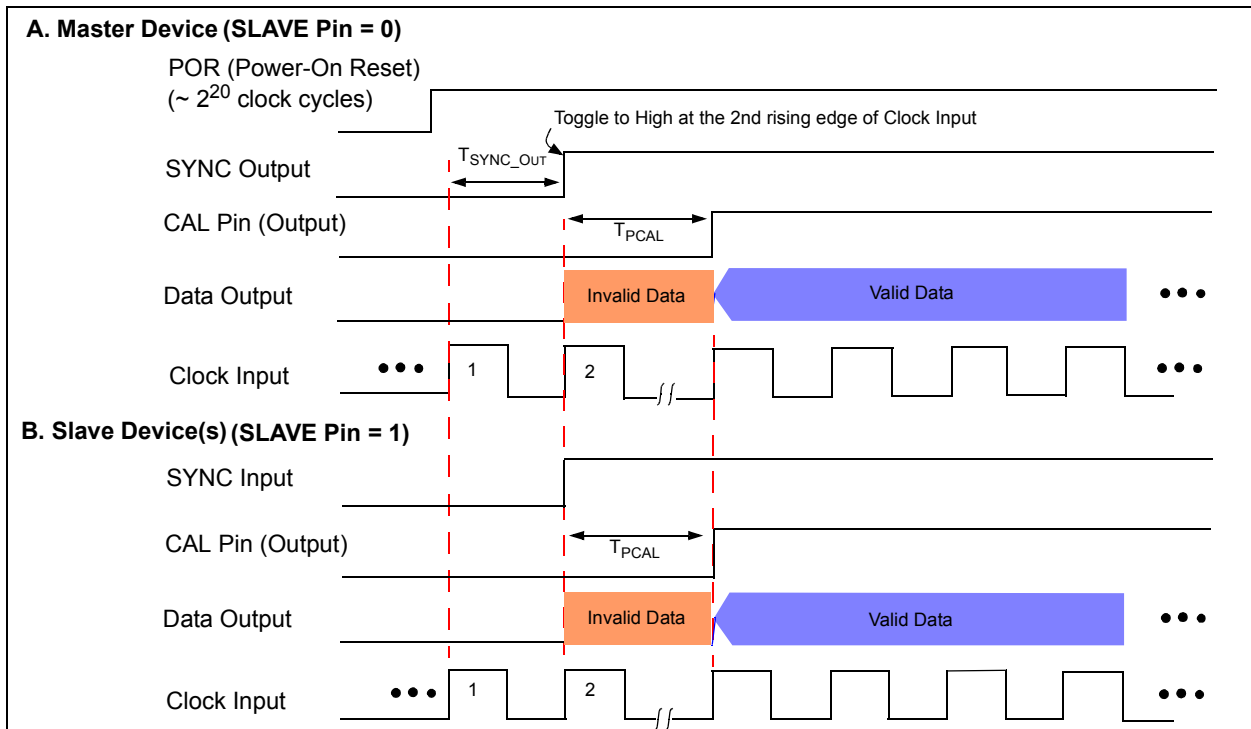
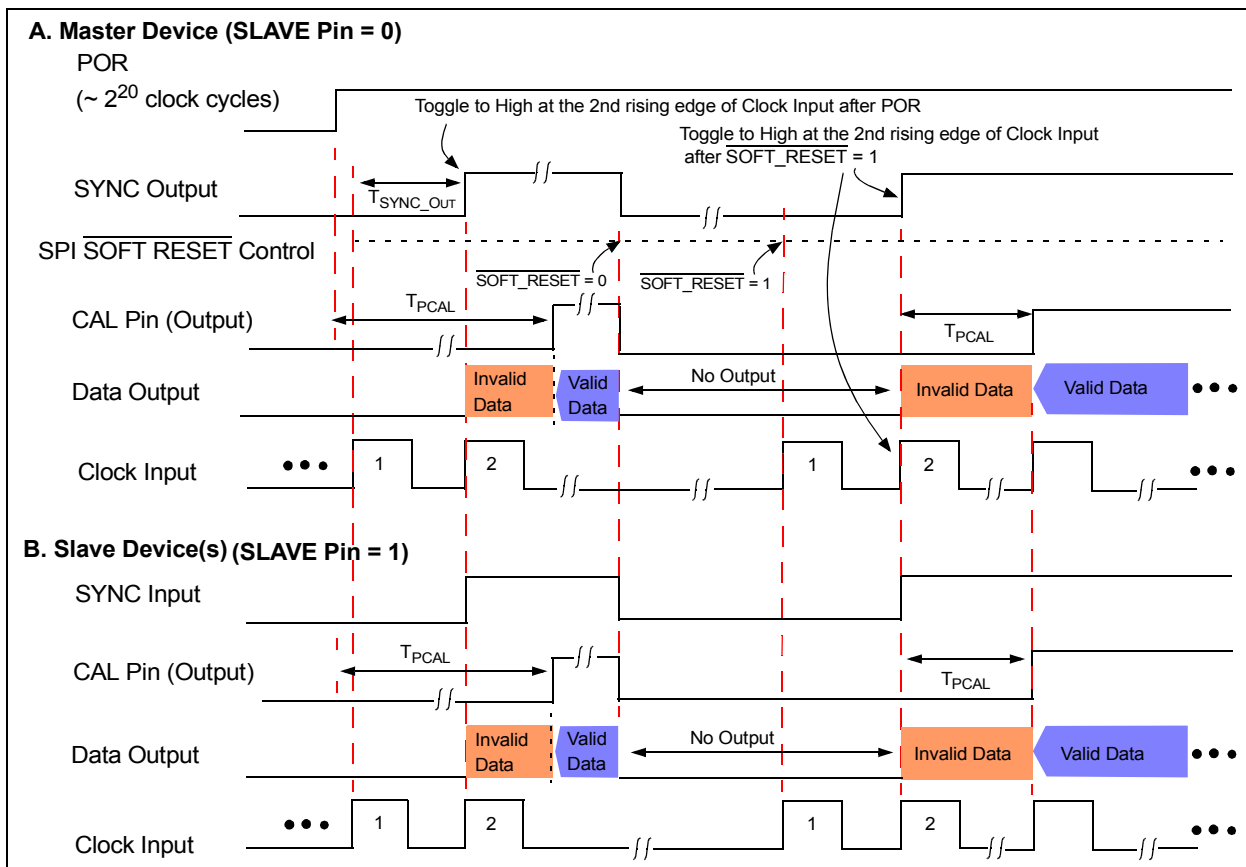

FIGURE 2-9: Sync Timing Diagram with Power-On Reset.
FIGURE 2-11: Sync Timing Diagram with $\overline{SOFT_RESET}$ Bit Setting.
- 6:** Characterized with a single slave device. The maximum ADC sample rate for AutoSync mode may be reduced if multiple slave devices are used. See Figure 2-9 - Figure 2-11, and Figure 4-27 for details.